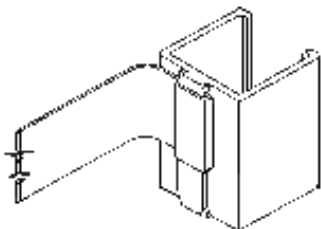

Figure 22
3. The post clips are pre-crimped at the top of the tongue. After the post clips are installed in the brackets, crimp the bottom of the tongue to prevent accidental disengagement of the post clip. Refer to Figure 22 .